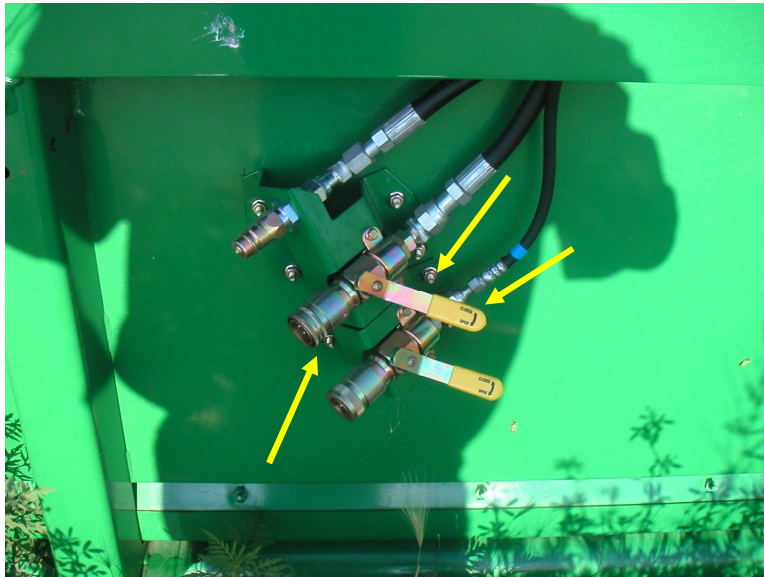

Figure 18
6. Mark and drill the holes for the fore/aft bracket (LAN – 128041). (See Figure 18)
7. Using three Carriage Bolts (*LAN – 03M7184) and three Lock Nuts (*LAN – 14M7298), fasten the bracket to the head. (See Figure 18)